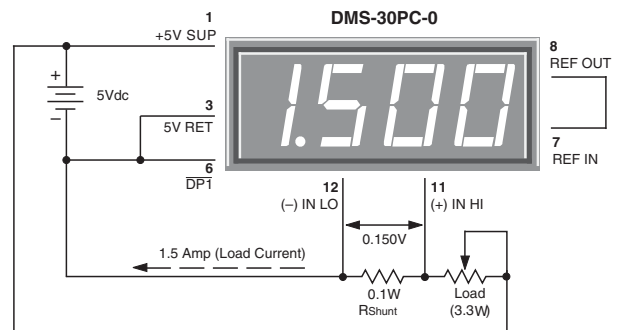

Figure 9. Basic DC Ammeter Circuit
7. Digital Ammeter: Digital ammeters are finding ever-increasing usage because analog-style ammeters (moving-vane types) now cost roughly the same as their digital counterparts. Additionally, analog ammeters are not nearly as rugged as modern digital panel voltmeters. Figure 9 illustrates a typical ammeter application. The circuit uses a ±200mV input meter